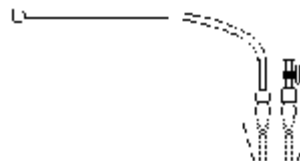

Figure 3
- Obtain a rubber-stopper assembly with a piece of heavy-wall plastic tubing connected to one of its two valves (shown in Figure 3). Insert the rubber-stopper assembly into a 125-mL Erlenmeyer flask. **Important:** Twist the stopper into the neck of the flask to ensure a tight fit. Attach the connector at the free end of the plastic tubing to the pressure sensor valve with a clockwise turn (see Figure 4).